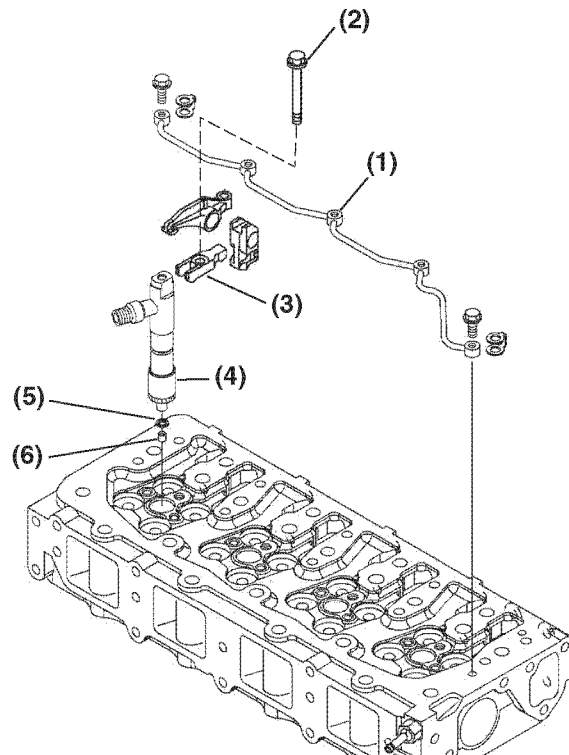

Figure 7-57
1. Reinsert a new nozzle seat (**Figure 7-57, (6)**) and nozzle protector (**Figure 7-57, (5)**) in the cylinder head for each injector.
3. Reinsert each fuel injector (**Figure 7-57, (4)**) into the cylinder head.
4. Reinstall the fuel injector retainers (**Figure 7-57, (3)**) and torque the retaining bolts (**Figure 7-57, (2)**) to specification.